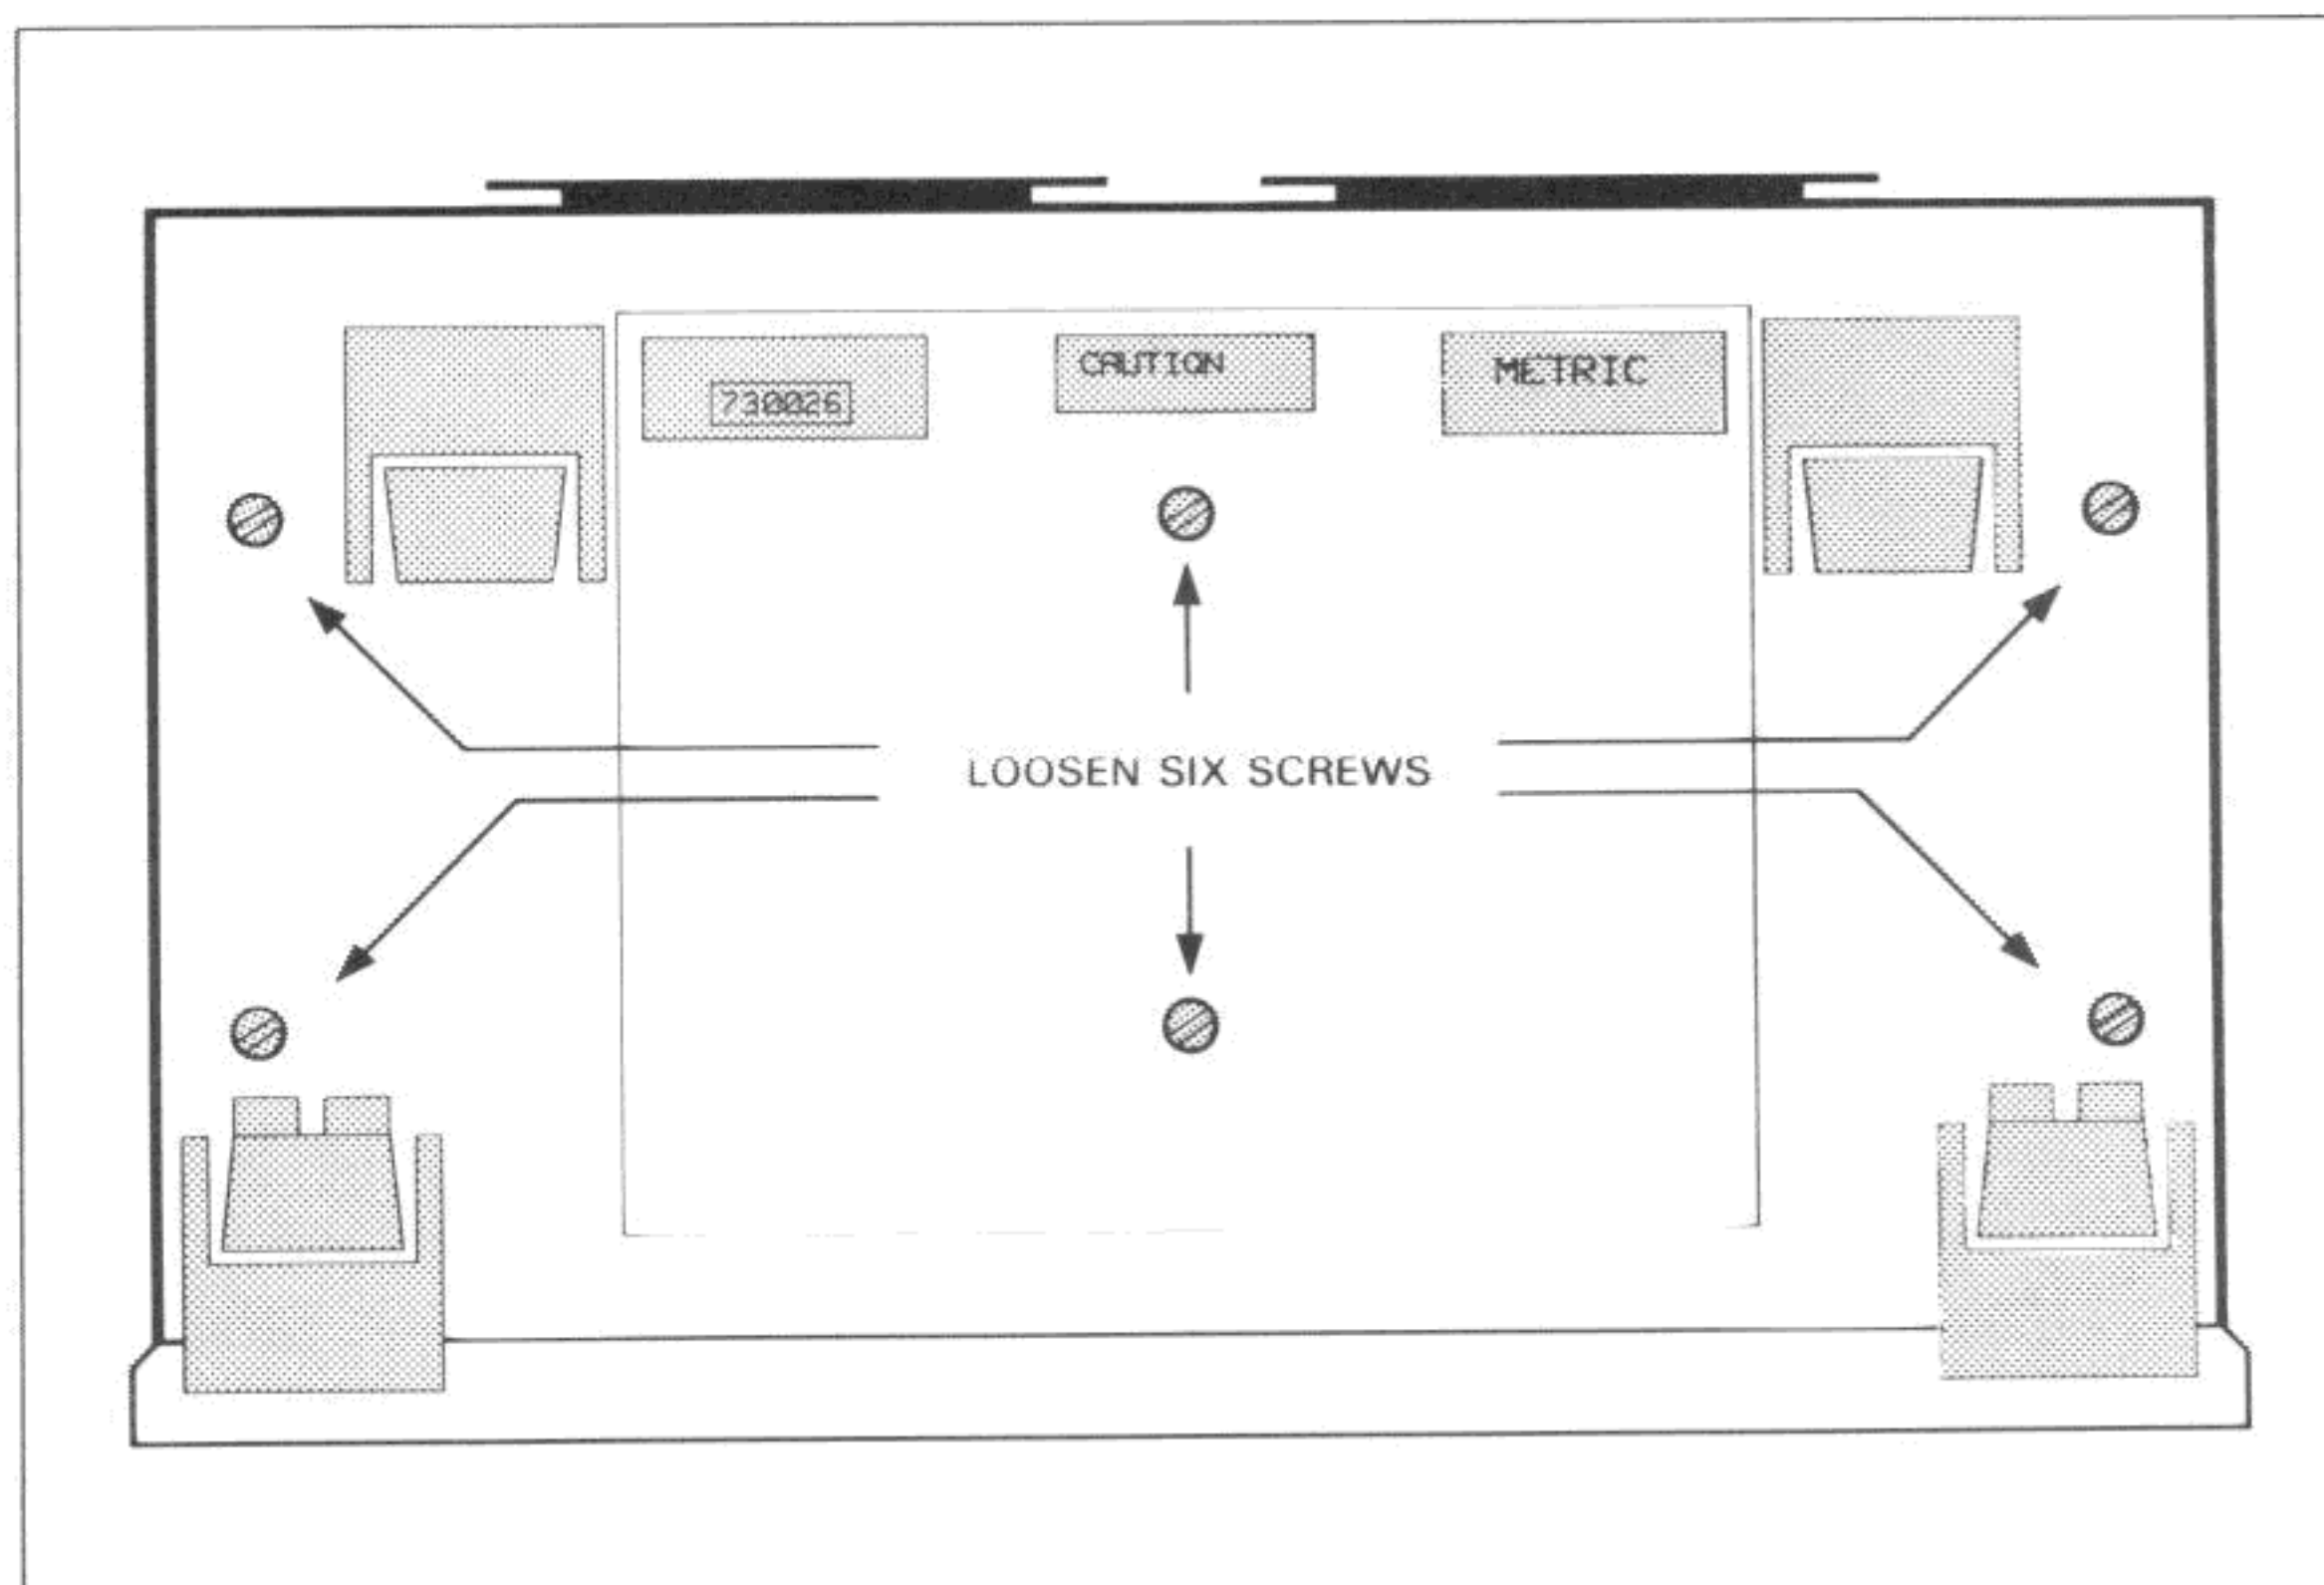

Figure 2-2-2. Loosen Bottom Screws
- c. Turn the instrument upside down. This is preferably done on top of a protective mat to reduce the possibility of scratching or marring the instrument case. Refer to Figure 2-2-2 and loosen the six screws on the instrument bottom.